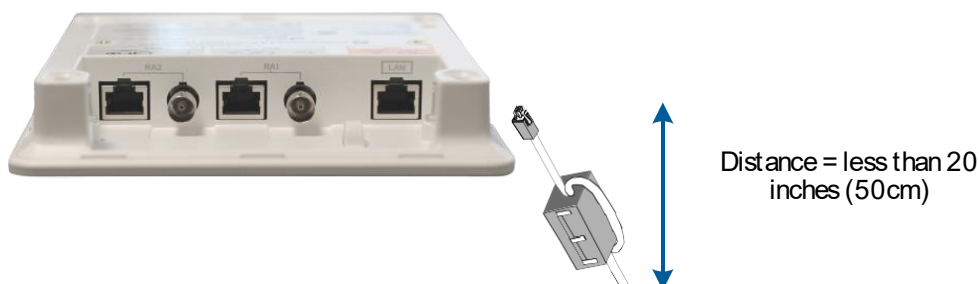

Figure 34: Installing a Ferrite Block on the Smart-hopping 2.4 GHz AP UTP Cable
**Note** Only for 2.4 GHz Access Points - Be sure to install a ferrite block within 20 inches (50 cm) of the RJ-45 connector that connects to the Standard or Core Access Point as shown in Figure 34.